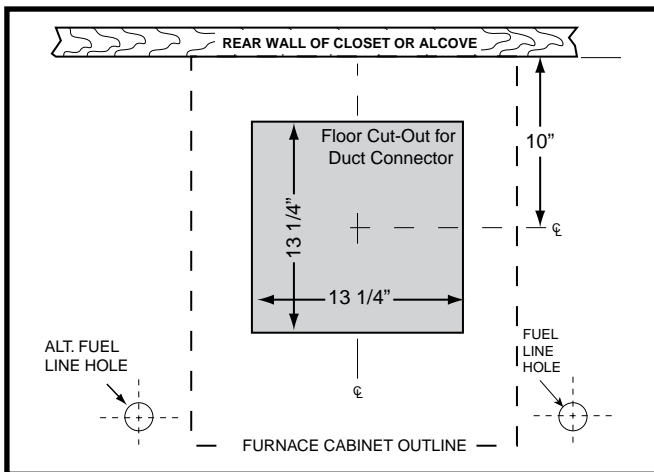

Figure 13. Floor Cutout Dimensions
1. Measure from the rear wall or alcove and mark the centerline of the cut-out on the floor. Using the centerline as a starting point, draw the rest of the duct cut-out to the dimensions shown in Figure 13.